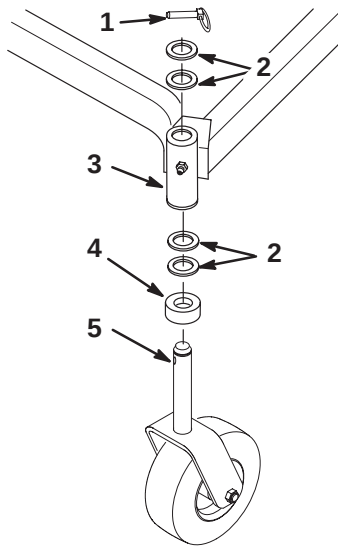

Figure 28
2. Remove the locking pin and thrust washer(s) from the top of the castor wheel fork (Fig. 28).
6. Inspect the castor wheel fork for wear and replace if necessary (Fig. 28).
7. Slide the castor wheel fork through the bushings in the mounting tube. Replace the thrust washer(s) onto the fork and secure with the retaining ring (Fig 28).